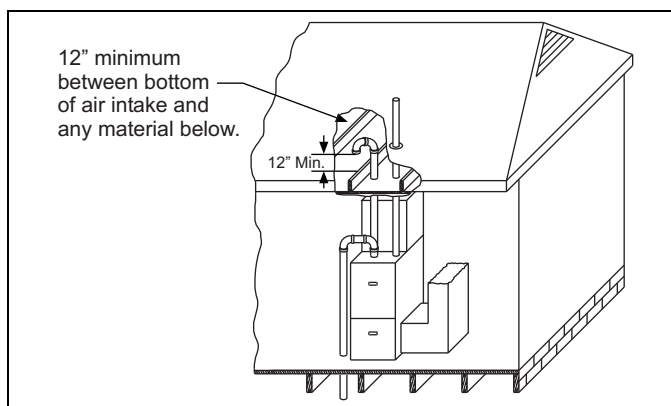

FIGURE 38: Attic and Crawl Space Combustion Air Termination
3. **VENTILATED COMBUSTION AIR:** Combustion air is supplied through a PVC or ABS pipe that is connected to the PVC coupling attached to the burner box and is terminated in a ventilated attic or crawl space. The combustion air and the vent pipes are not terminated in the same atmospheric zone. Refer to Figure 38 for attic and crawl space termination. Only the combustion air intake may terminate in the attic. The vent must terminate outside.
Refer to Figure 38 for required attic termination for the combustion air intake pipe. For attic termination, use two 90° elbows with the open end in a downward position. Be sure to maintain 12" (30.5 cm) clearance above any insulation, flooring or other material.